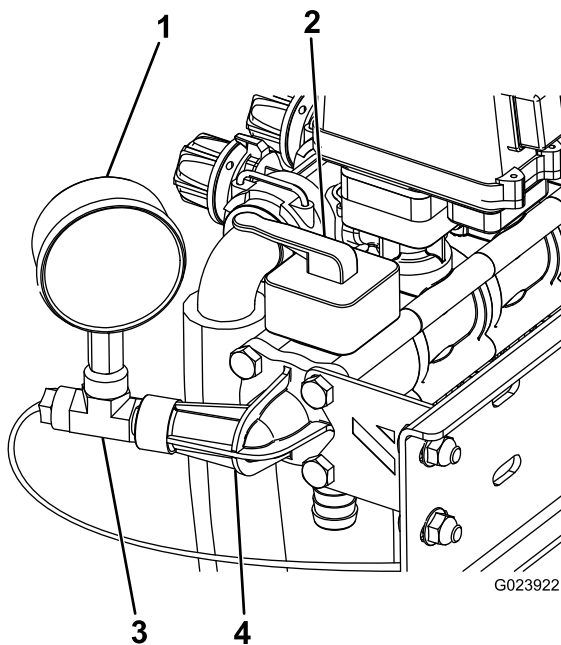

Figure 10
4. Install the O-ring, the new control valve, and the previously removed pressure-gauge port, and stabilizing bracket using 4 long bolts; refer to Figure 10.
5. Connect the T-fitting to the pressure-gauge port (Figure 10).
6. Connect the pressure gauge to the T-fitting (Figure 10).